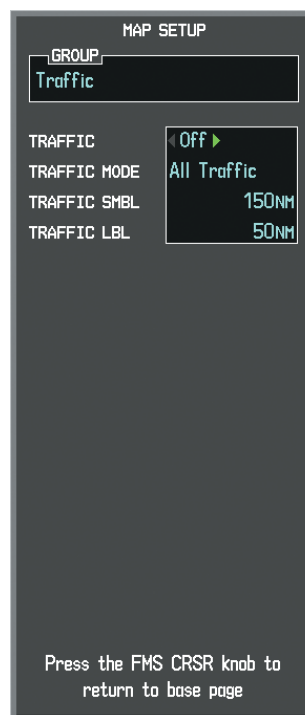

Figure 6-107 Navigation Map Page Setup Menu, Traffic Group
- 5) Turn the large **FMS** Knob or press the **ENT** Key to scroll through the selections (Figure 6-107).